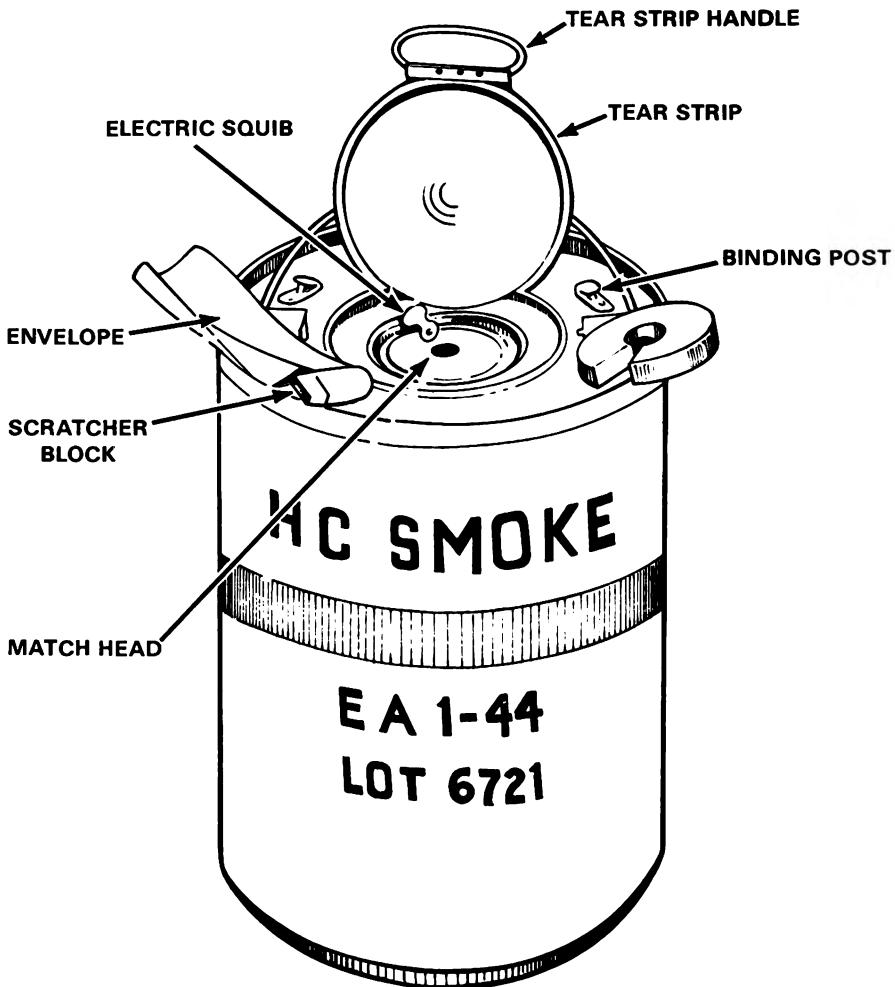

Figure 2. ABC-M5 smoke pot prepared for manual ignition.
2. To ignite the M5 pot (figure 2).